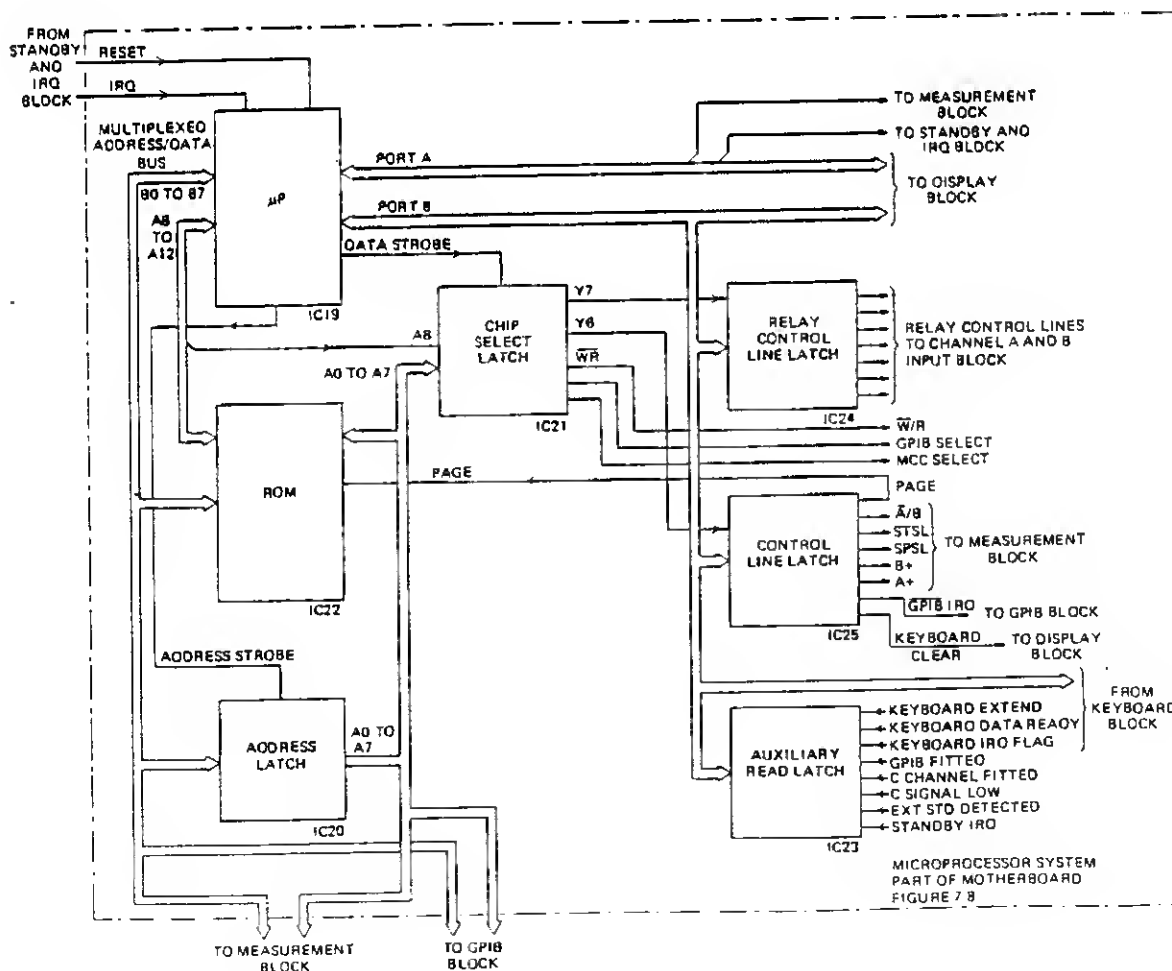

Figure 5.8 - Microprocessor-Block Diagram
5.3.6.1.1 A simplified diagram of the microprocessor block is given in Figure 5.8. The microprocessor used has a 5-bit bus for the high-order address bits and an 8-bit multiplexed bus which is used for the low-order address bits and for data. The low-order address bits are strobed into the address latch, which holds them on an 8-bit address bus, to free the multiplexed bus for data.